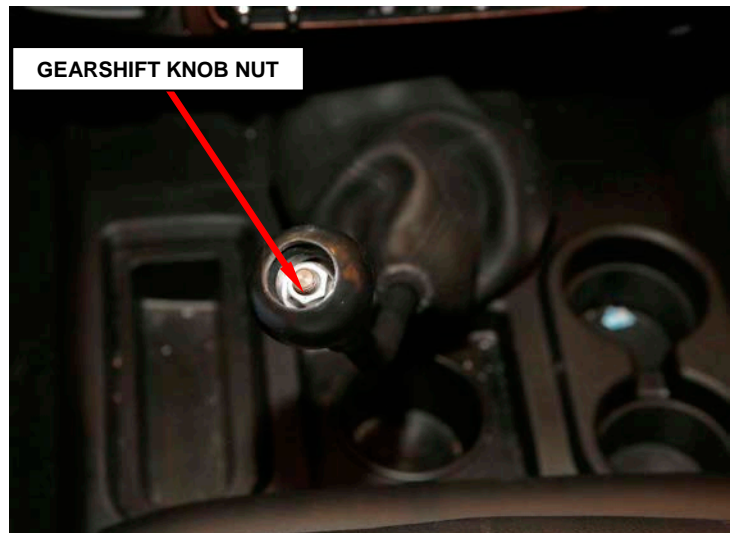

Figure 2 – Gearshift Knob Nut
2. Remove and save the gearshift knob nut (Figure 2).
13. Install the gearshift lever nut and tighten to 27 N·m (20 ft. lbs.) (Figure 2).